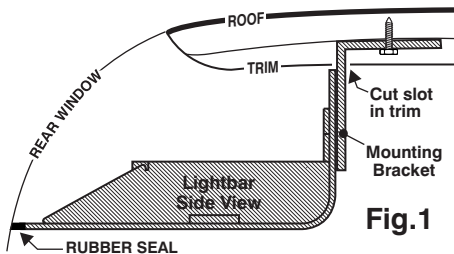

Fig. 1
2. Hold the lightbar up against the vehicle window in the exact position it will be mounted. (*The seal that comes in contact with the window must fully engage the window.*) With the lightbar in position and centered, use masking tape to mark the exact position of the two outside ends of the lightbar onto the vehicle window (See Fig. 1 of 2017 Tahoe).
1. Install the rubber seal onto the front edge of the lightbar where it contacts the window (Fig. 1).